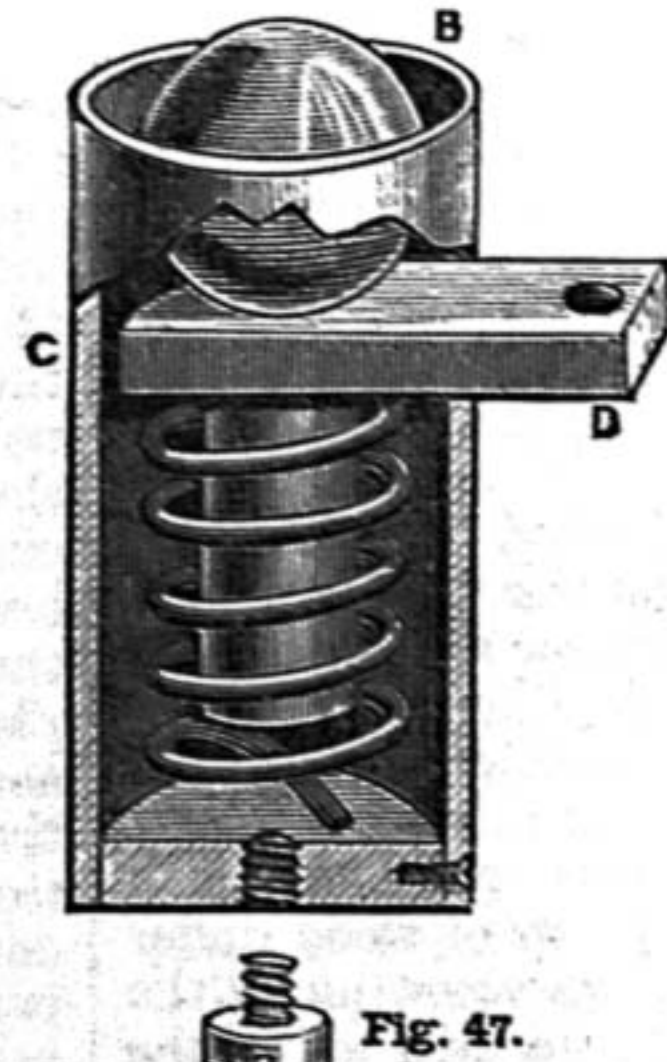
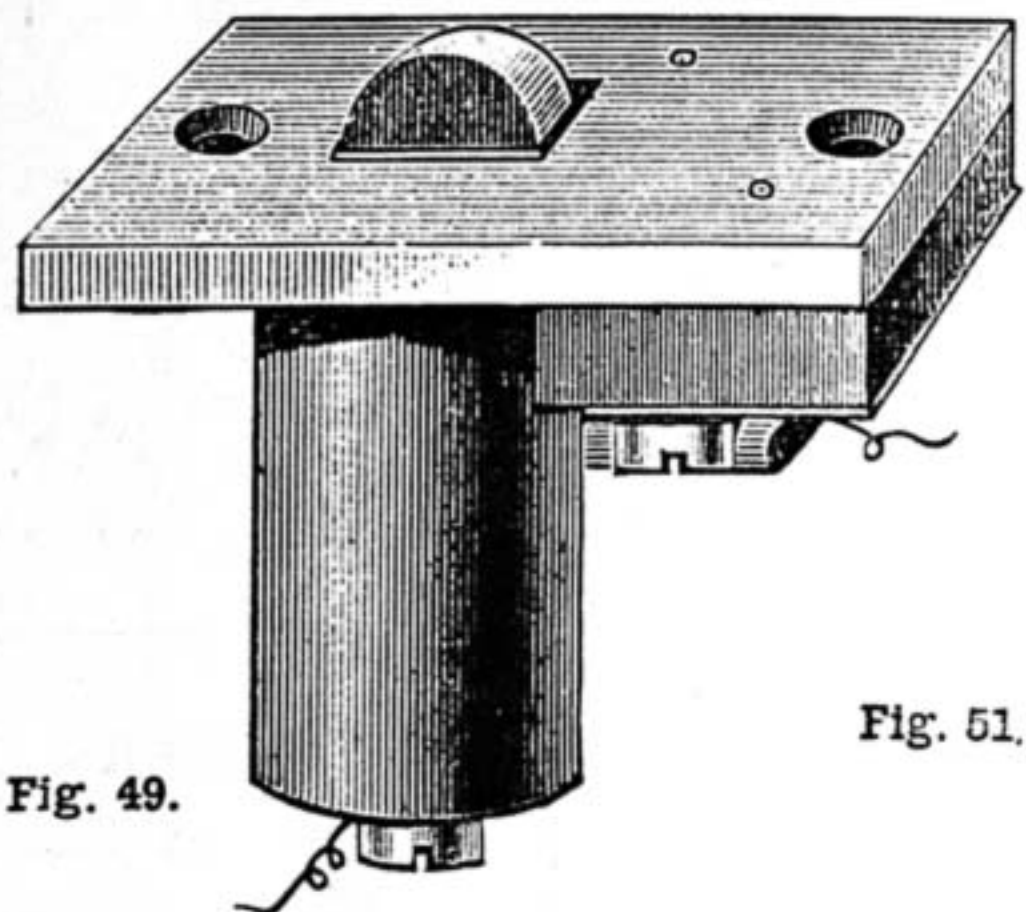

Fig. 47.
Fig. 49.
Doorpost Contacts.—Fig. 46 illustrates a form of doorpost contact made and sold by vendors of electric sundries generally. It is made up of (1) a brass plate (A), 2¼ in. by 1 in. by ⅜ in., with a hole drilled and countersunk in each end to receive the screws which fasten it to the doorpost. Half an inch from one end, drill a ⅜ in. hole, and countersink it on the lower side, or chamfer away the lower edge of the hole until it allows one-third of a ¾ in. brass marble to protrude above the surface of the plate. (2) A 1½ in. length of ¾ in. brass barrel (C) is soldered to the base plate, A, to form a socket tube for the brass marble, B. This tube has a ¼ in. slot cut on the side next the ebonite block, E, to admit the brass cam, D. The inside of the tube is fitted, as shown at Fig. 47, with a strong spiral spring, surrounding a ½ in. brass plunger, to the top of which is soldered the brass cam, D. The tube is stoppered at its bottom end with a disc of brass, kept in place by two or three small screws through the side of the tube. On this bottom rests the end of the spiral spring, and to this is fastened one of the branch wires by the set screw shown in both figures. (3) A block of ebonite 1½ in. by ¾ in. by ½ in. (E), cut to the shape shown at Fig. 48, to fit one side of the brass tube, is now to be attached by two screws to the base plate, A. Across this obliquely, as shown in Fig. 48, is fixed a small slip of thin brass, with a speck of platinum foil soldered to the spot where it will come into contact with the corresponding speck of platinum soldered to the upper part of the cam, D, as shown at Fig. 47. To this strip of brass is attached the other branch line. Fig. 49 illustrates another variety of the same appliance, of smaller size, and with a rounded head of brass to the plunger and cam, instead of a brass marble, as at Fig. 46. Let us now see how these contacts are placed in action, and fixed to the door. A hole is drilled in the rebate of the hind doorpost,